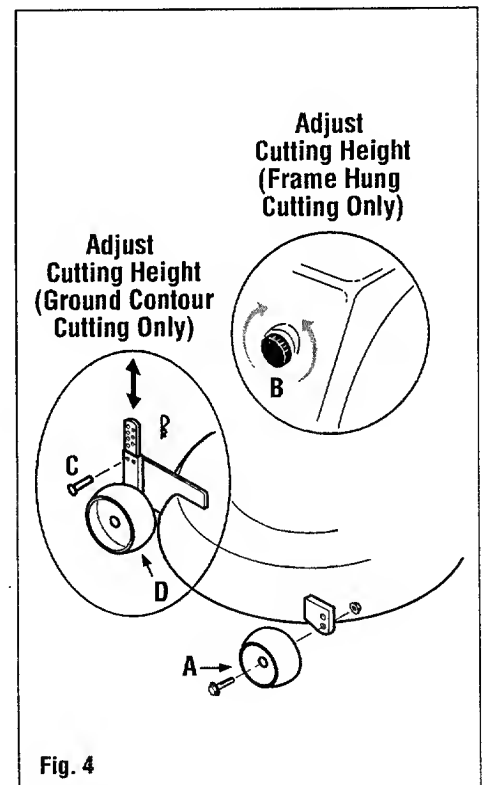

Fig. 4
Secure front anti-scalp wheels (A, Fig. 4) to top hole in mounting bracket when cutting at a height less than 3". Secure to bottom hole when cutting at a height more than 3".
- a. Remove cotter spring and clevis pin (C, Fig. 4).
- b. Move each rear gage wheel (D) up or down to select cutting height. (Set each gage wheel to the same height.)
- c. Secure each gage wheel in position with clevis pin (C) and cotter spring as illustrated.
2. Adjust cutting height at height adjustment knob (B, Fig. 4 & 6):